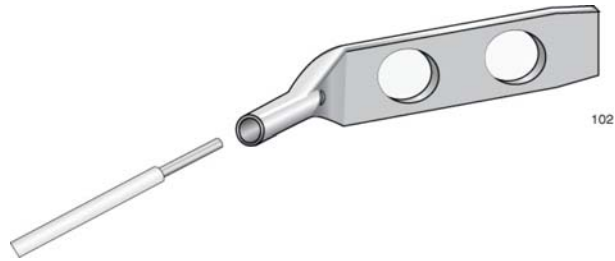

Figure 38. Attaching the Grounding Wire to the Grounding Lug
3. Insert one end of the grounding wire into the grounding lug, as shown in Figure 38, and use a crimping tool to secure the wire to the grounding lug.